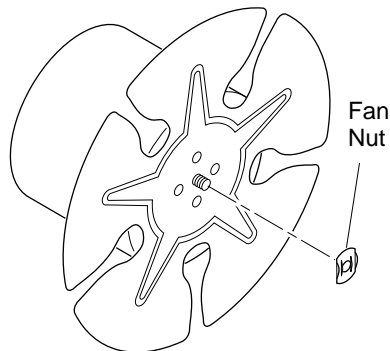

Figure 8 - Removing Fan Nut from Motor Shaft
3. Use pliers to remove the fan nut from front of motor shaft (see Figure 8).